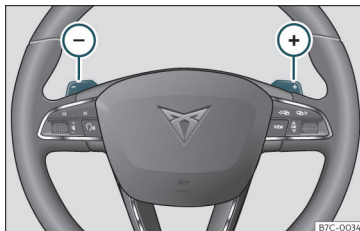

Fig. 199 Steering wheel: automatic gearbox levers
- Press the gearshift paddle (+) to select a higher gear >>> **Fig. 199**.